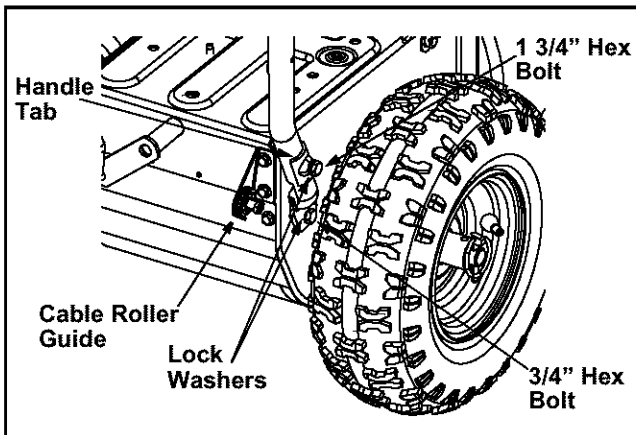

Figure 2
- Place right handle in position against the snow thrower so the flat side of the handle is against the snow thrower. Secure bottom hole in handle to snow thrower using 3/4" hex bolt and lock washer. Do not tighten at this time. See Figure 2.
- Make certain all cables are in the grooves of the cable roller guides. The two roller guides are located in the lower rear of the unit, one on each side. See Figure 2.